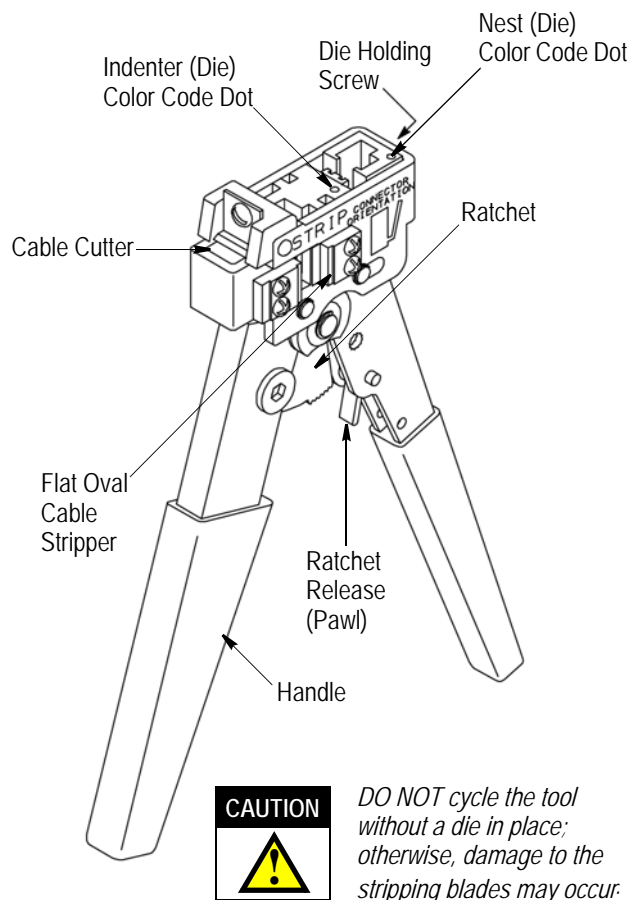

Figure 1
Modular Plug Hand Tools 231652-[] (shown in Figure 1) are designed to terminate modular plug connectors onto stranded or solid, shielded or unshielded flat oval cable or round cable. The tool also cuts and strips unshielded flat oval cable. Other cable must be prepared by separate tools.
2. DESCRIPTION (Figure1)